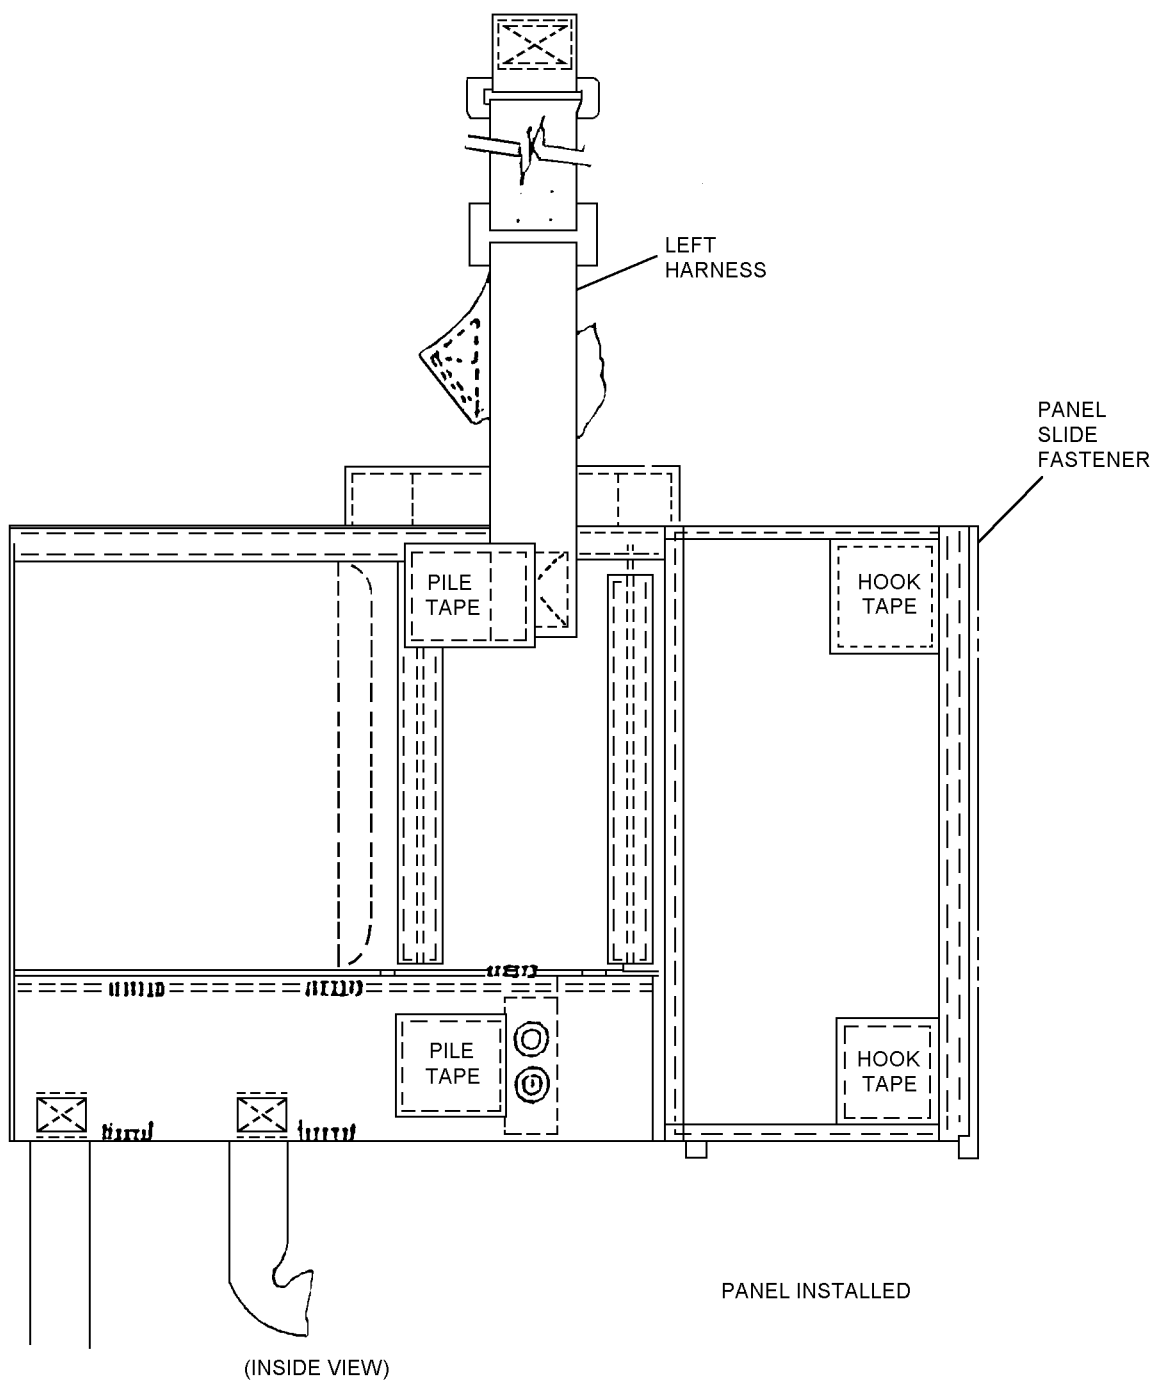

Figure 6-27. SV-2B After ACC 522
5. Position and sew fabricated extension panel to inside of vest aligned along back edge of attaching fabric of vest's slide fastener (figure 6-27).